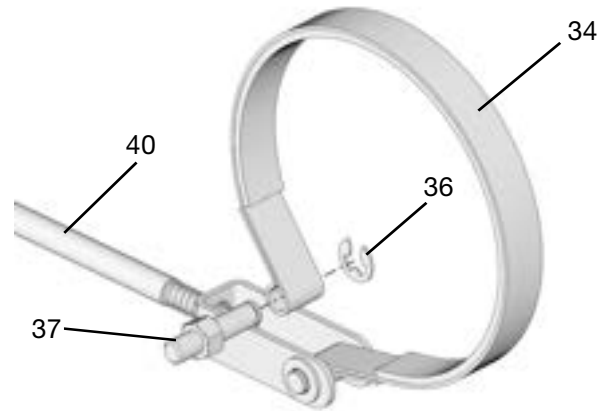

FIG. 30
10. Rotate entire brake assembly 180° (FIG. 30).
11. Install band (34) around brake hub (12).
12. Install anchor pin (37) through (34) making sure clip end is in position shown in FIG. 30.
13. Reinstall clip (36) (FIG. 30).